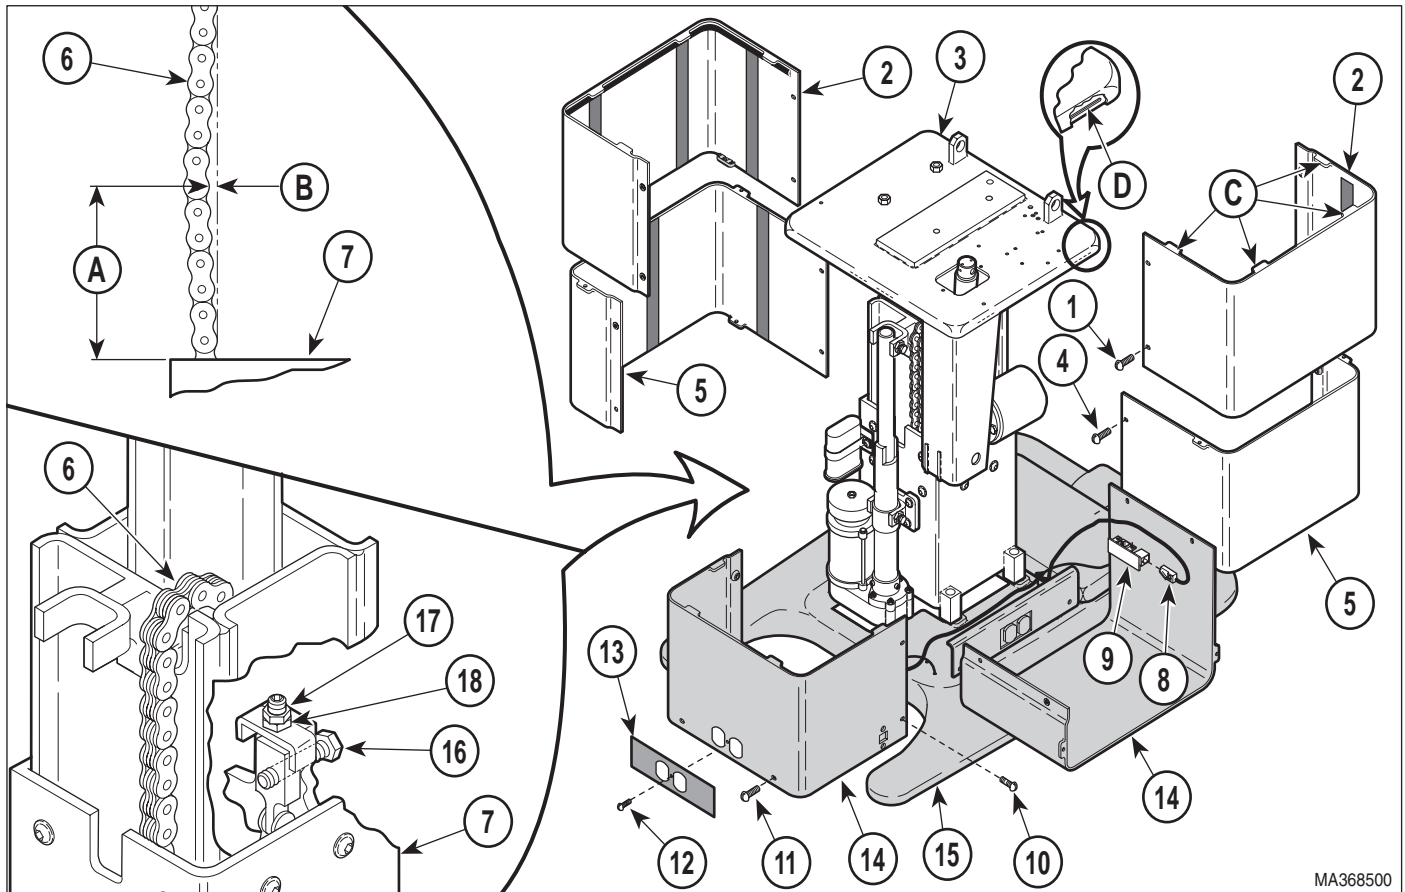

Figure 4-28. Chain Tension Check / Adjustment
- (5) Remove four screws (1, Figure 4-28) and R.H. and L.H. outer shrouds (2) from column adapter weldment (3).
- (6) Remove four screws (4) and R.H. and L.H. middle shrouds (5).
- (7) Measure slack (measurement B) in chain (6) at a point $1 \frac{3}{4}$ to $2 \frac{1}{4}$ in. (4.4 to 5.7 cm) above top of outer slide weldment (7) (measurement A).